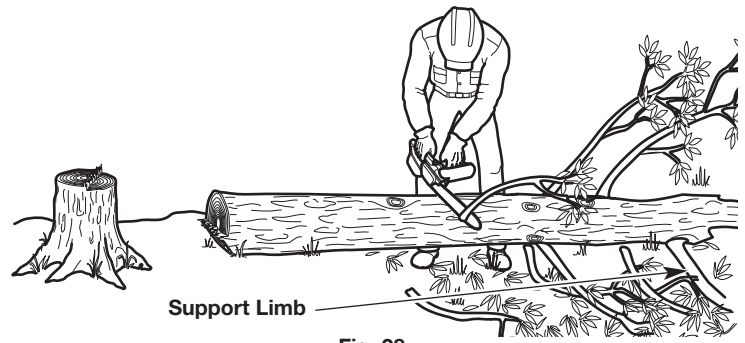

Fig. 28
1. Leave the larger support limbs under the tree for last (Fig. 28). These will keep the tree off the ground during the limbing process.
2. Cut one limb at a time. Stand on the opposite side of the tree from the limb (Fig. 28). Keep the trunk between the operator and the chain saw. To avoid binding the chain saw, branches under tension should be cut from the bottom up.